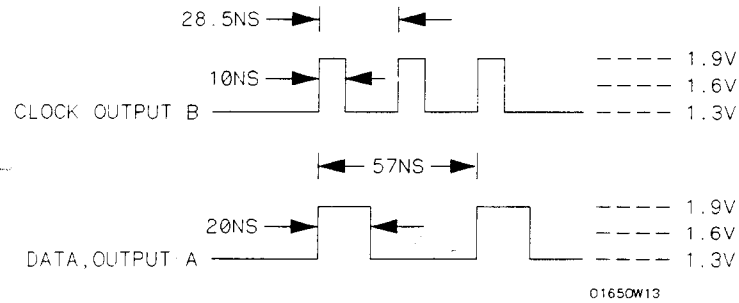

Figure 3-20. Waveform for Data Test 4
2. Adjust the pulse generator for the output in figure 3-20.